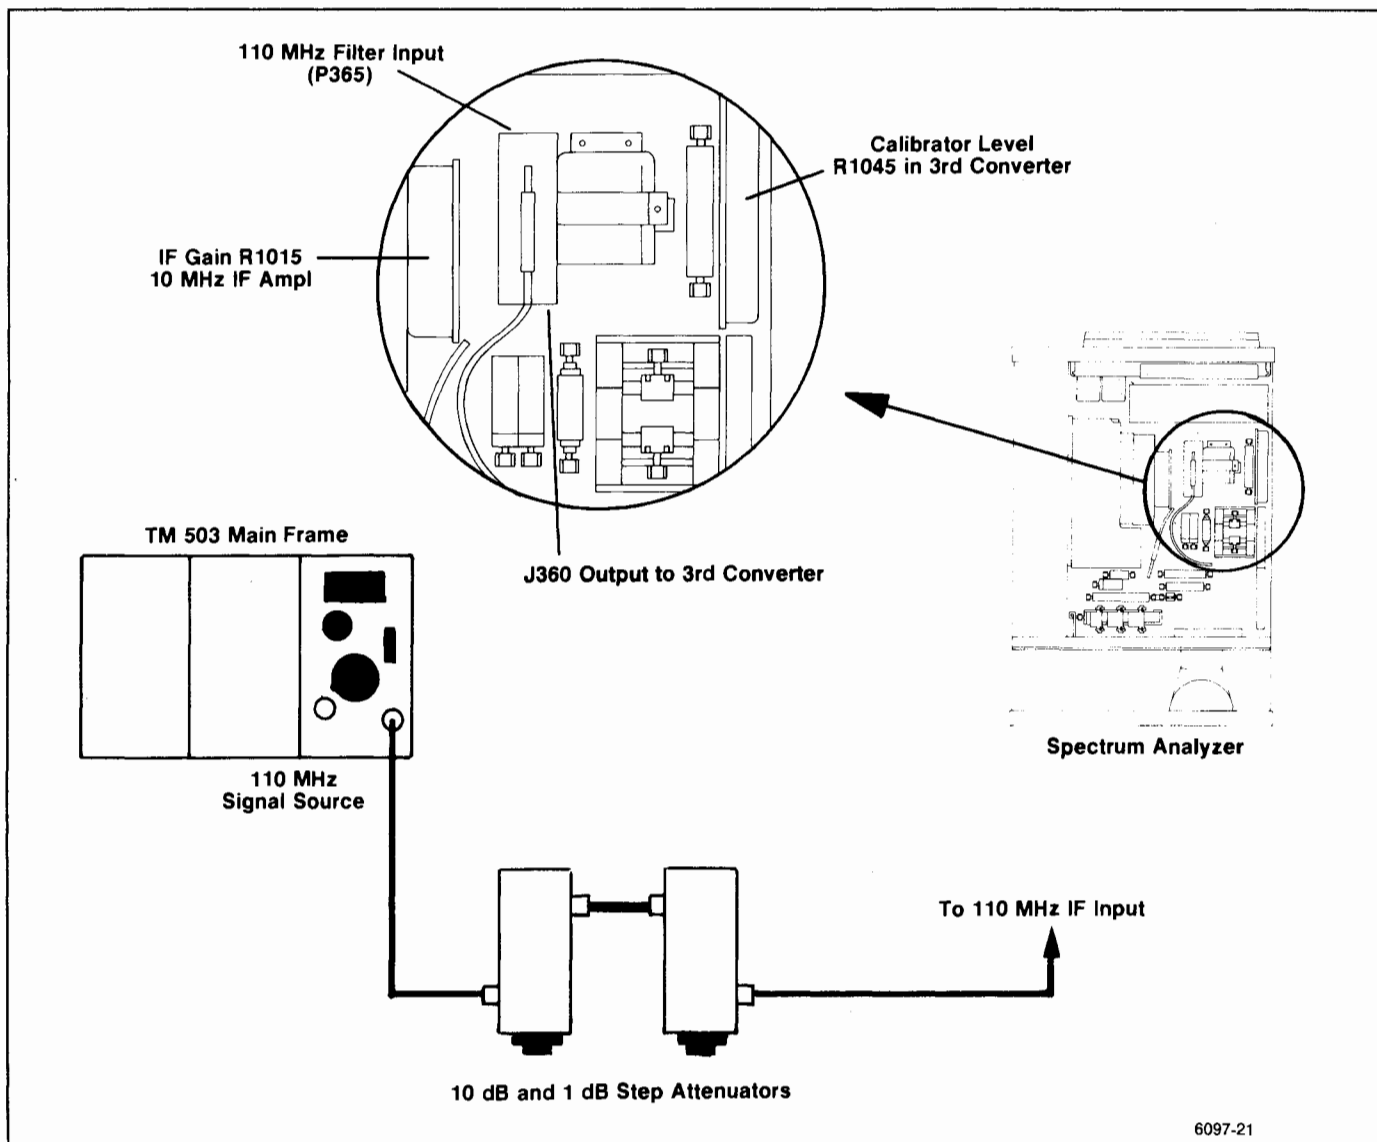

Figure 5-21. IF gain test setup, and adjustment and connector locations.
f. Adjust Cal Level R1041, in the 3rd converter (#2 in Figure 5-21) for no displacement between the CAL OUT signal and the reference (VIEW B and SAVE A displays).
a. Test equipment setup is shown in Figure 5-21. Set the **RESOLUTION BANDWIDTH** to 1 MHz, **VERTICAL DISPLAY** to 2 dB/DIV, **REF LEVEL** to  $-20$  dBm, and apply a  $-25$  dBm, 110 MHz signal, through step attenuators, to the input (J365) of the 110 MHz filter.
d. Set the step attenuators for 21 dB attenuation and apply the 110 MHz signal to the input (J321) of the 110 MHz IF amplifier (Figure 5-21).